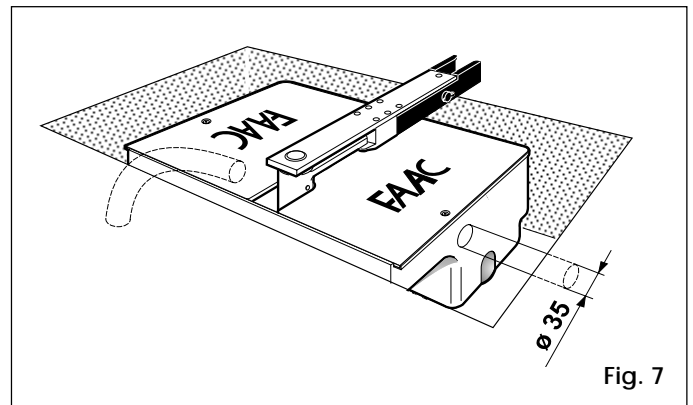

Fig. 7
- 3) Lay down a PVC tube of diameter 35 mm through which to pass a 4 core electrical cable. The tube must reach from the box the control unit (fig. 7). Lay a second tube to drain off rain water, from the box to the nearest drain (fig. 7).